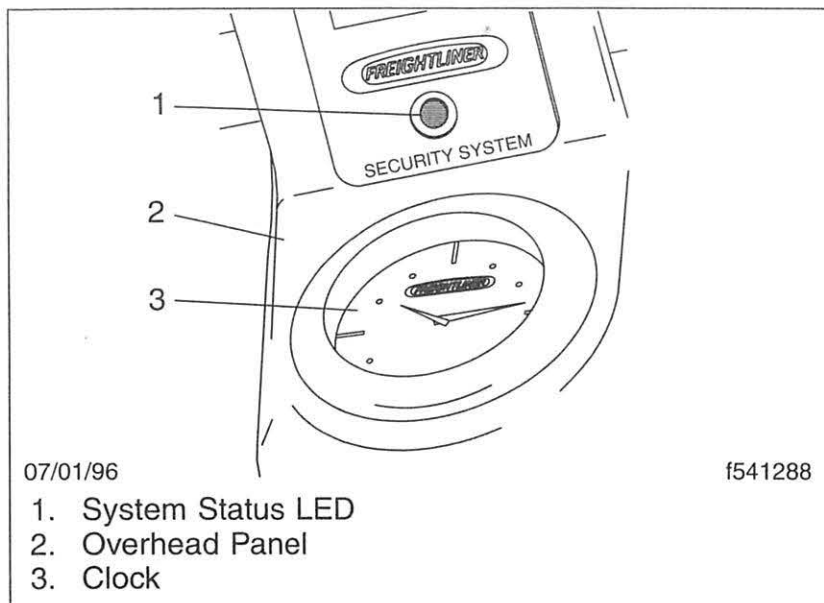

Fig. 3.10, Red System-Status LED
- A red system-status LED (light-emitting diode) mounted on the overhead panel above the clock. The LED flashes slow or fast to indicate what state the system is in: armed, alert, alarmed, or violated. It is off when the system is disarmed. See **Fig. 3.10**.
2. Now turn the ignition keyswitch on. Note that the system LED illuminates continuously. See **Fig. 3.10**. This indicates that the ECM is ready to begin the learning sequence.